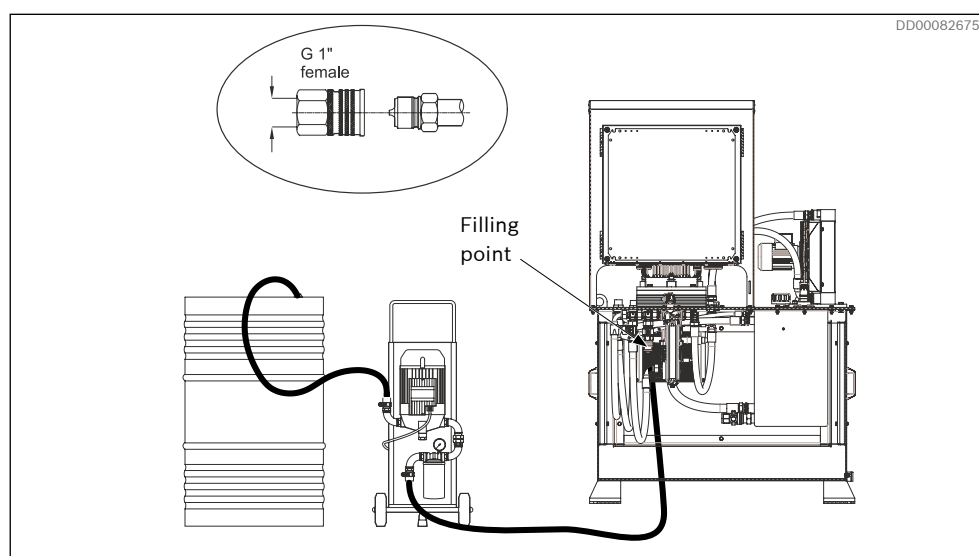

Fig. 18: Oil filling
- ▶ Only use the specific filling point in the drive unit to fill up the hydraulic system, see *Fig. 18: Oil filling*
Always pump the fluid in through the special quick connection. The quick connection is a completely rust-proof quick release coupling, The fluid filled into the system will be filtered through the drain filter. See *Fig. 18: Oil filling*.